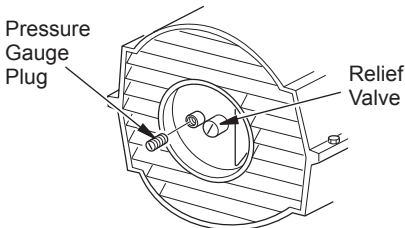

Figure 17 - Pressure Gauge Plug Removal (70 Model Shown)
1. Remove pressure gauge plug from filter end cover (see Figure 17).